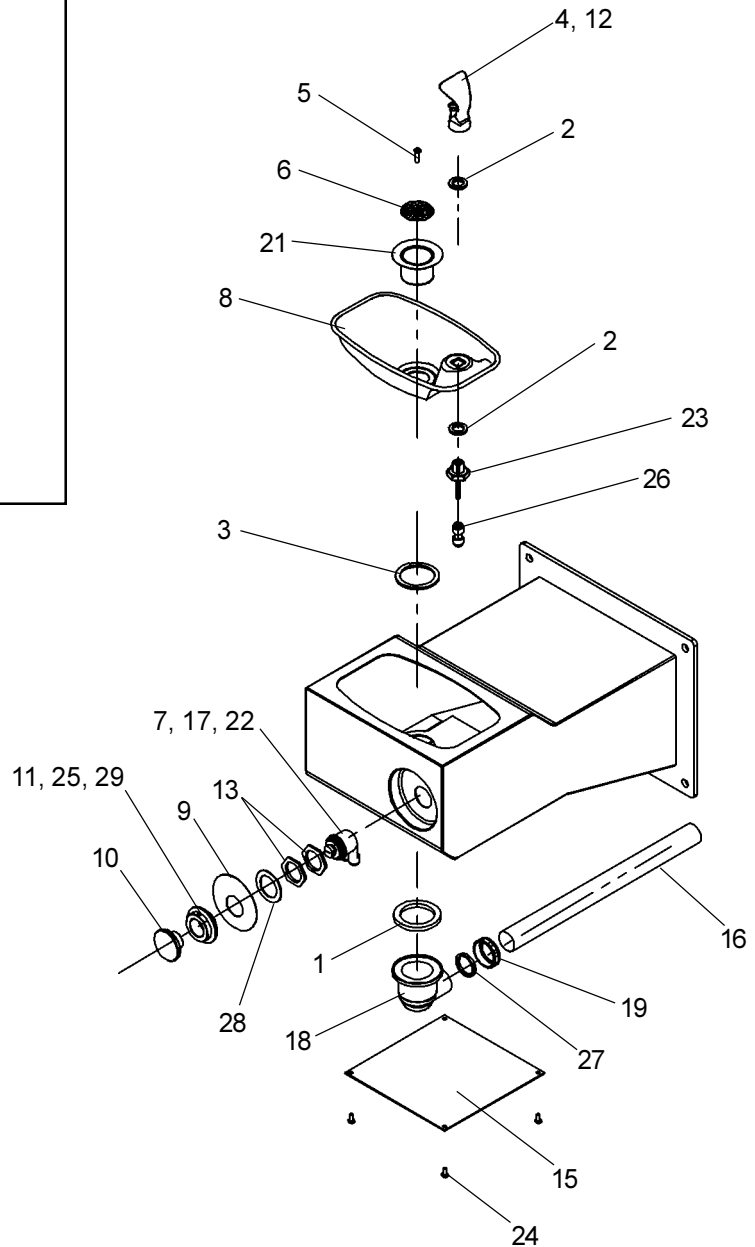

FIG. 5
Stream Height Adjustment: Stream height is factory set at 35 PSI. If supply pressure varies greatly from this, remove items 10 and 11 (See Fig. 5) and adjust screw on item 22. Clockwise adjustment will raise stream and counter-clockwise adjustment will lower stream. For best adjustment, stream should hit basin approx. 6-1/2" from bubbler.